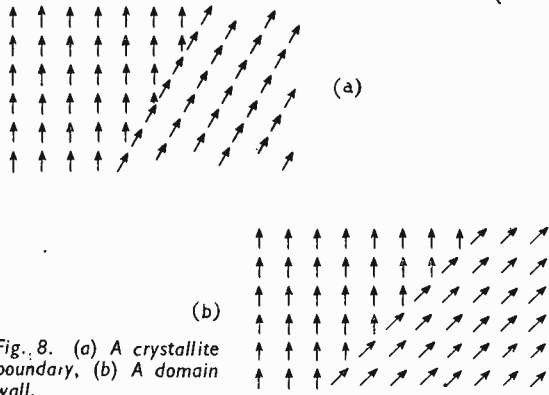

Fig. 8. (a) A crystallite boundary, (b) A domain wall.
**Domains.**—We have so far discussed the ferroelectric material as though it were a perfect crystal lattice, with aligned dipoles, extending in all directions. But in fact many of its most interesting properties occur because this is not true. Just as in magnetics, the material contains domains, i.e., regions defined by the dipole alignment; in each domain the alignment is different. You must distinguish carefully between a domain and a crystallite (in polycrystalline material). Crystallites are differentiated by a break in the lattice, domains by a "break" in the direction of alignment. The distinction is shown schematically in Fig. 8. Usually domains are the smaller entity. Ferromagnetic properties are largely determined by the domain structure. We shall see that there is special interest in materials in which the grains are so small that separate domains cannot form in them.
A wall between domains may not be a happy thing, in spite of there being (Fig. 8(b)) no lattice misfit there. (For the moment I ignore the differences of cell size in neighbouring domains due to polarisation.) It depends on the details of the way  $P$  changes over its direction and magnitude from the one domain to the other. In addition, the changes of cell size due to polarisation may be different in neighbouring domains, so that some lattice misfit does after all occur. There must be some distortion of the ideal lattice near the boundary to conform with this, and since this may extend some distance from the boundary, the wall must be regarded as having a thickness. In magnetics this may be a hundred lattice cells; in some ferroelectrics, less than one.